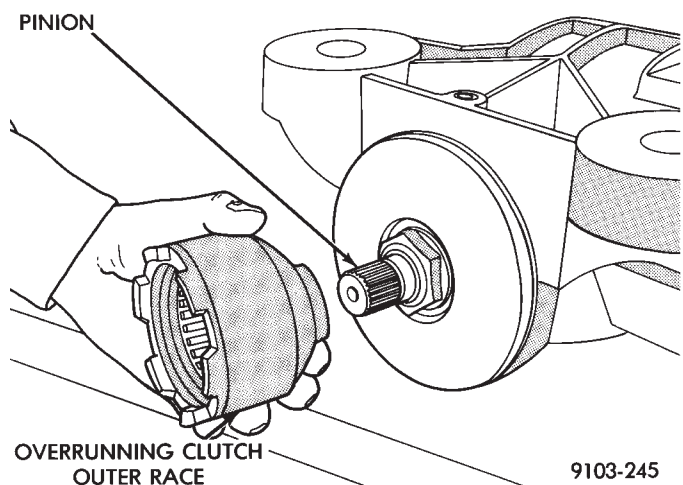

Fig. 11 Overrunning Clutch Outer Race Removal
(9) Slide overrunning clutch outer race off of shaft (Fig. 11).